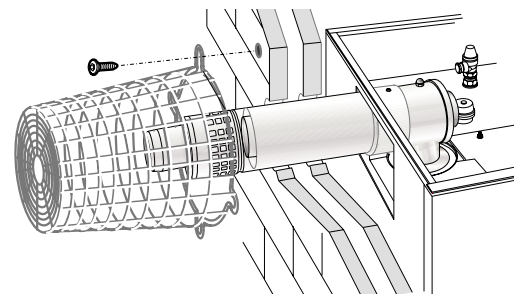

Fig. 7
6. Fit the stainless steel flue guard supplied using the stainless steel screws and rawl plugs provided (Fig. 7).